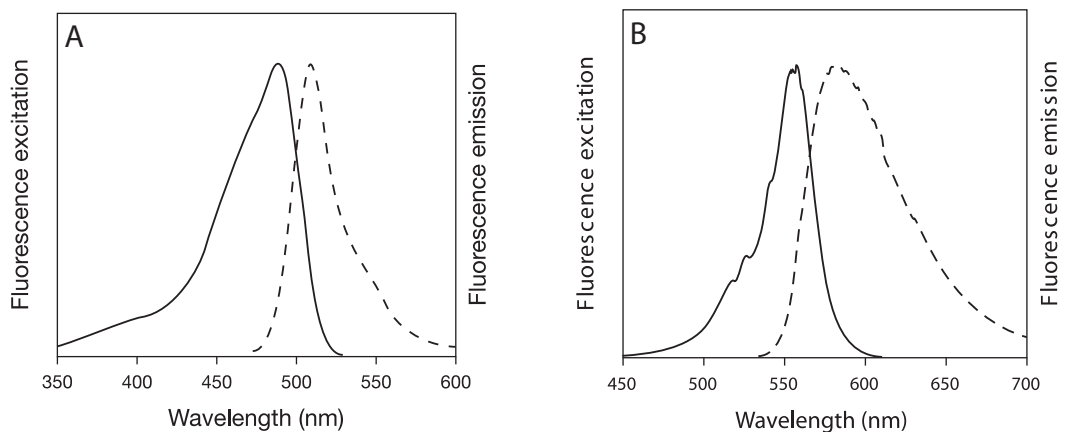

Figure 2. Fluorescence excitation and emission spectra for Premo™ geminin-GFP (panel A) and Premo™ Cdt1-RFP (panel B).
- 3.1 Image and analyze using appropriate instrument filter sets. Refer to Figure 2 for spectral characteristics of geminin-GFP and Cdt1-RFP.